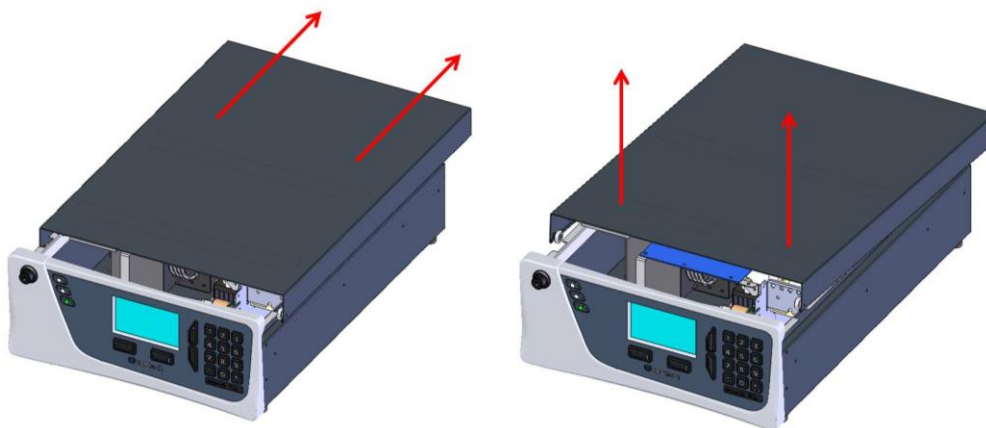

Figure 4 – Opening the Instrument
3. To completely remove, slide the lid backwards until the rollers line up with the gaps in the track and pull the lid upwards to remove from the instrument (refer to Figure 4).